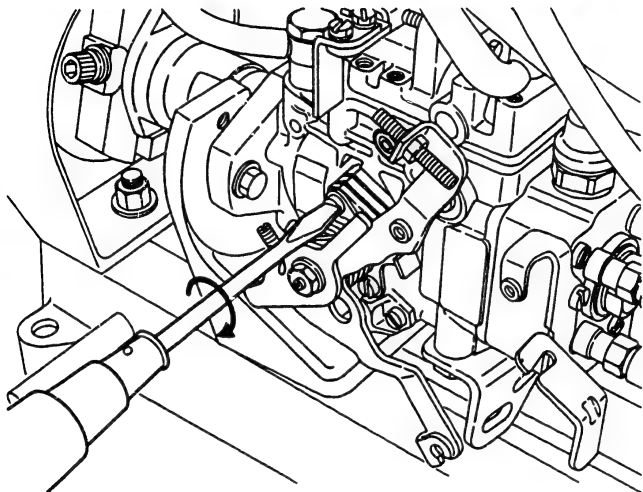

Fig. 171 Installing the manual-cold start device
2. Install the M-C.S.D. in its original position after confirming that the timer stroke reading on the measuring device returns to zero when the drive shaft is rotated (Fig. 171)